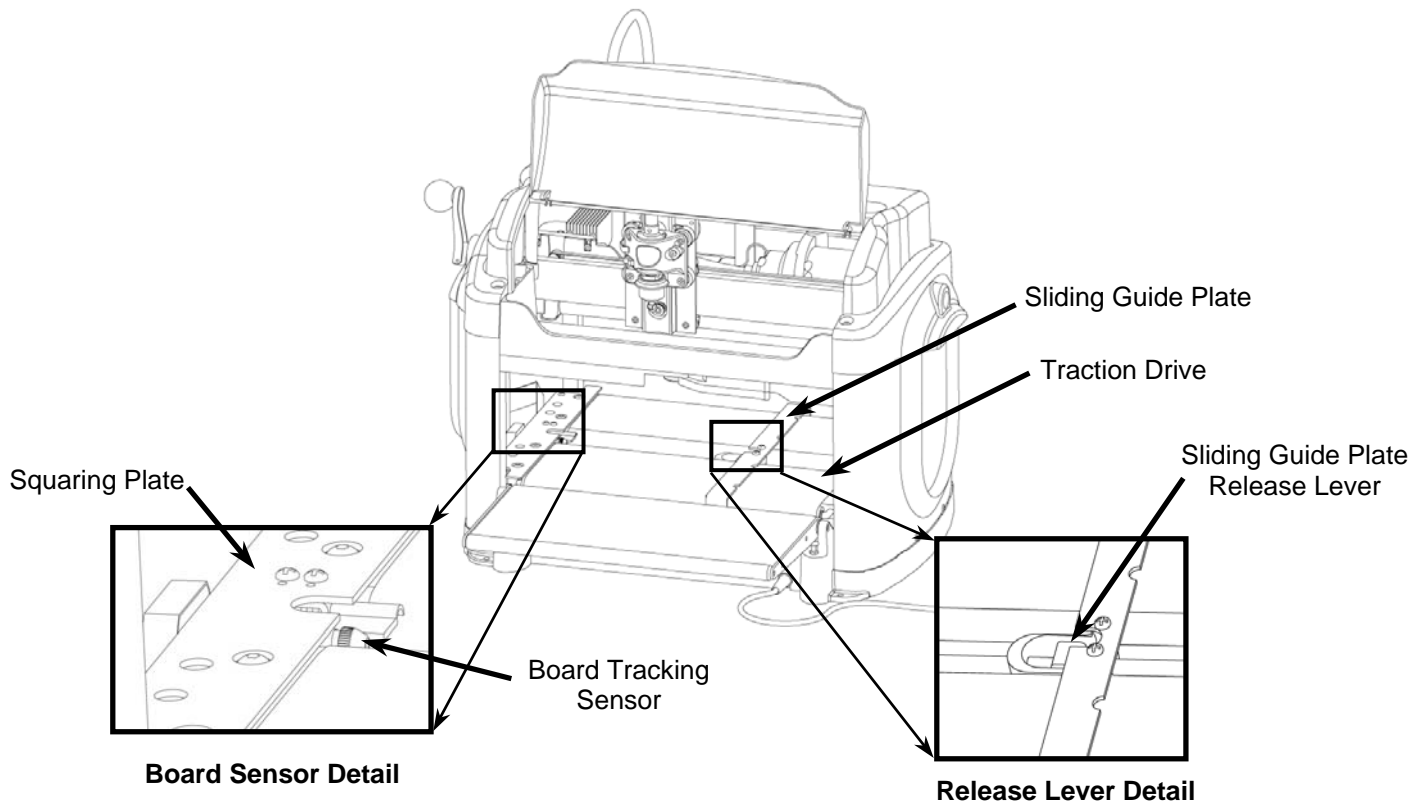

FIGURE 7: SCANNING SLED
2. Check the bottom of the sled for features that will make it unusable in the machine. The bottom surface of the sled where it contacts the squaring plate must be flat and level for a width of at least $\frac{3}{8}$ inches along the bottom edge to allow the Board Tracking Sensor to accurately calculate the position of the workpiece at all times (see Figure 7).